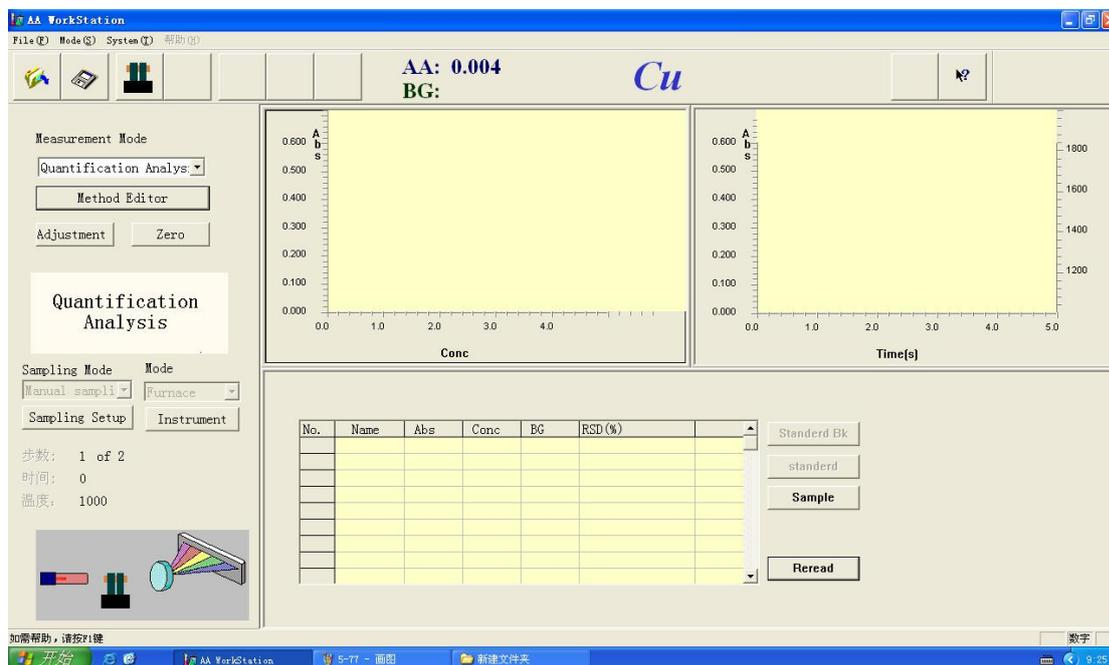

Figure 6-2
1. Select the “Call Data” from the file menu or press the open button on the toolbar, the Figure 6-2 pops up.